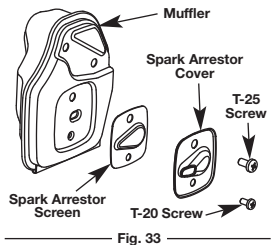

Fig. 33
- With a flat blade screwdriver or Torx T-20 bit and a T-25 bit, remove the screws attaching the spark arrestor diverter to the muffler (Fig. 33).